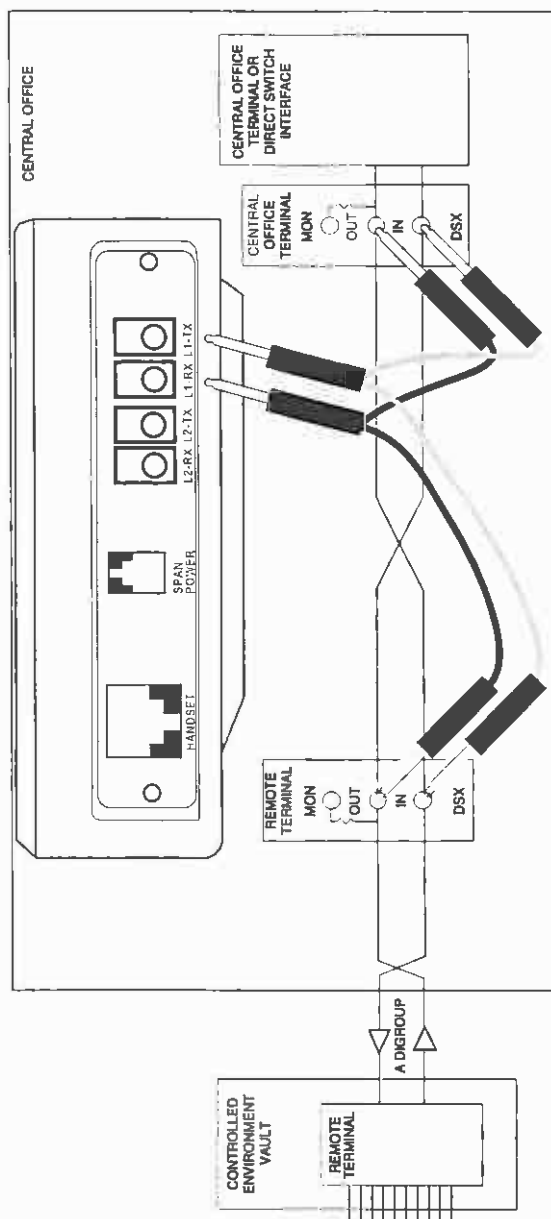

Figure 108 SLC-96 Out-of-Service Testing
2. Connect your test set to the circuit as required for the testing you wish to perform. Refer to Figures 108 and 109. More than one set may be necessary because you may need to transmit and receive maintenance commands on the A digroup while you are performing bit error testing on another digroup. Possible tests you can perform include: